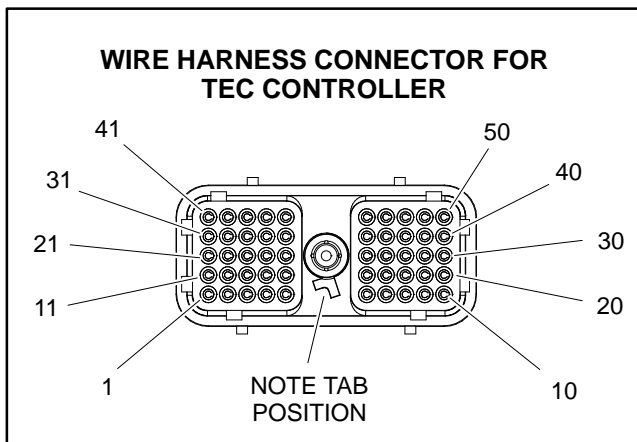
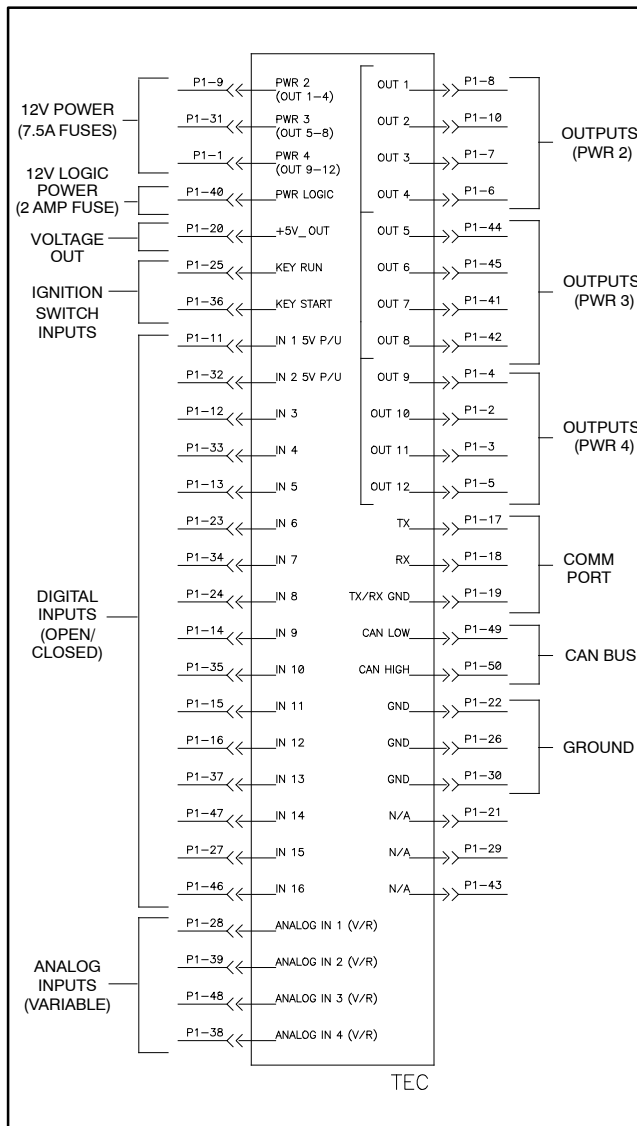

Figure 30
Figure 31
Electrical power for the controller outputs is provided through three (3) connectors (PWR2, PWR3 and PWR4) each protected with a 7.5 amp fuse. A fifty (50) pin wire harness connector attaches to the controller. The layout of the wire harness connector that plugs into the TEC controller is provided (Fig. 30). The TEC controller connection terminal functions and the connector pins are shown for reference (Fig. 31).